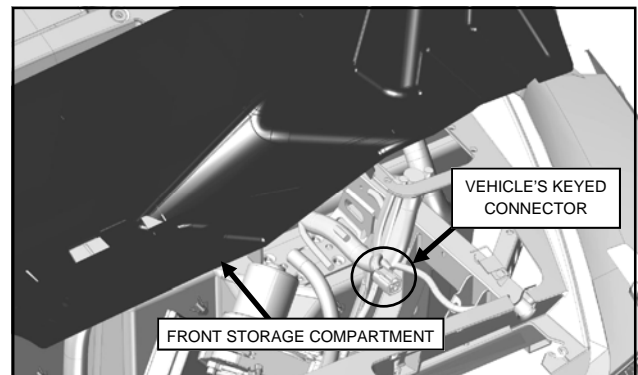

Fig. 3.4 (Front Storage Compartment)
- 3.4** Remove hood and front storage compartment as shown in fig 3.4. Place the (2) connectors found on the UTV Plow Wire Harness near the vehicle's keyed connector as well as the 9-pin connector for the controller found on the Main Wire Harness.